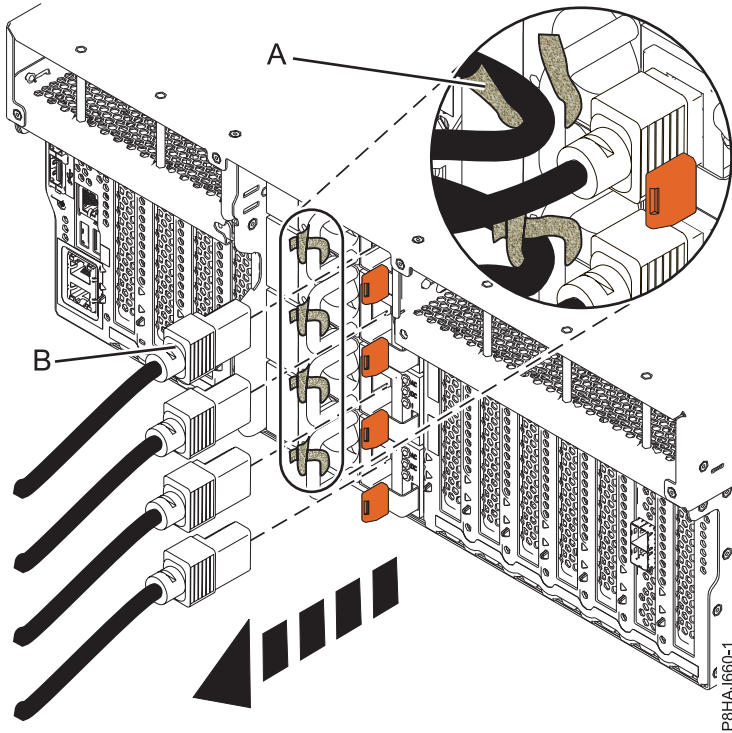
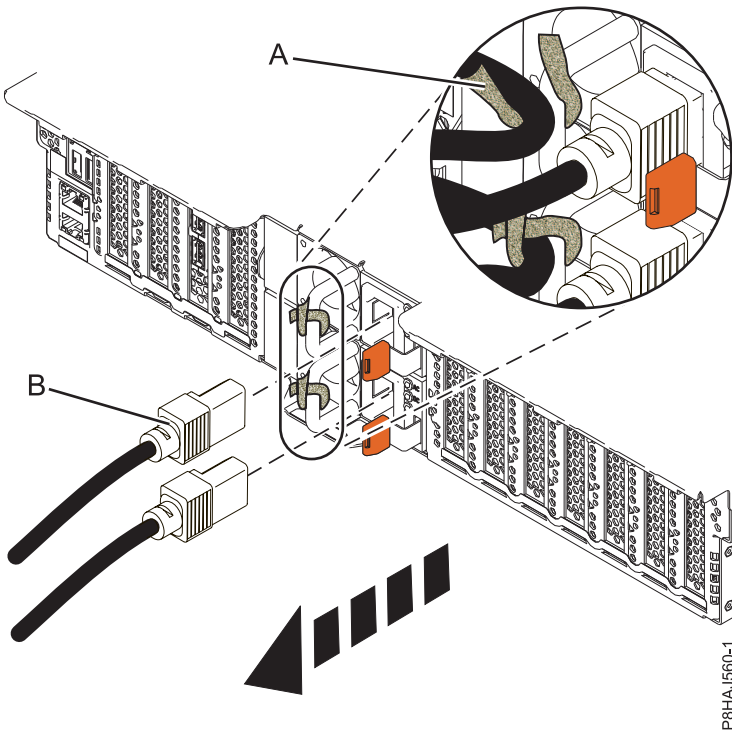
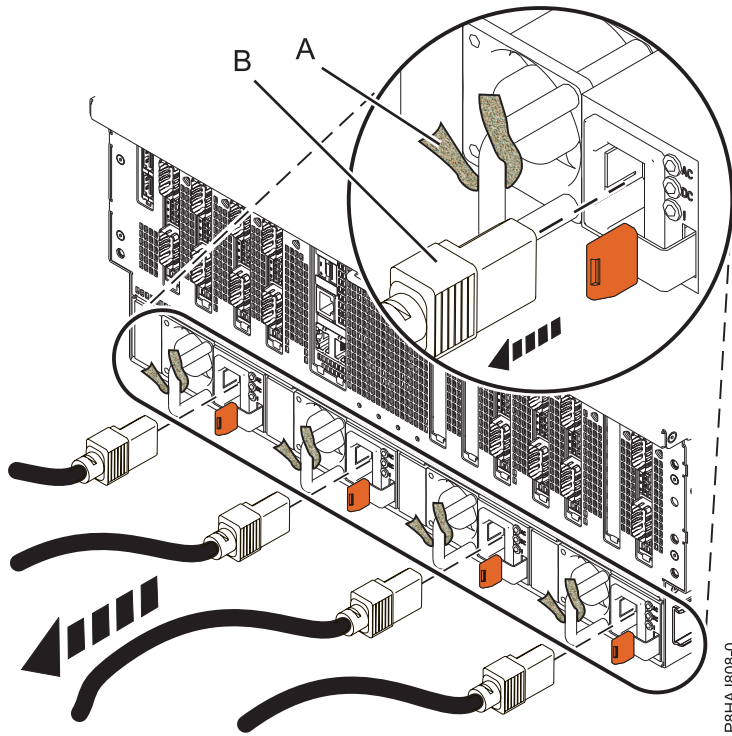

Figure 49. Removing the power cords from an 8247-42L, 8286-41A, or 8286-42A system
Figure 50. Removing the power cords from an 5148-21L, 5148-22L, 8247-21L, 8247-22L, 8284-21A, or 8284-22A system
Figure 51. Removing the power cords from an 8408-44E or 8408-E8E system
3. Disconnect the power cords (B) from the system unit. See Figure 49 on page 60, Figure 50 on page 60, or Figure 51 on page 61 or depending on the type of your system.